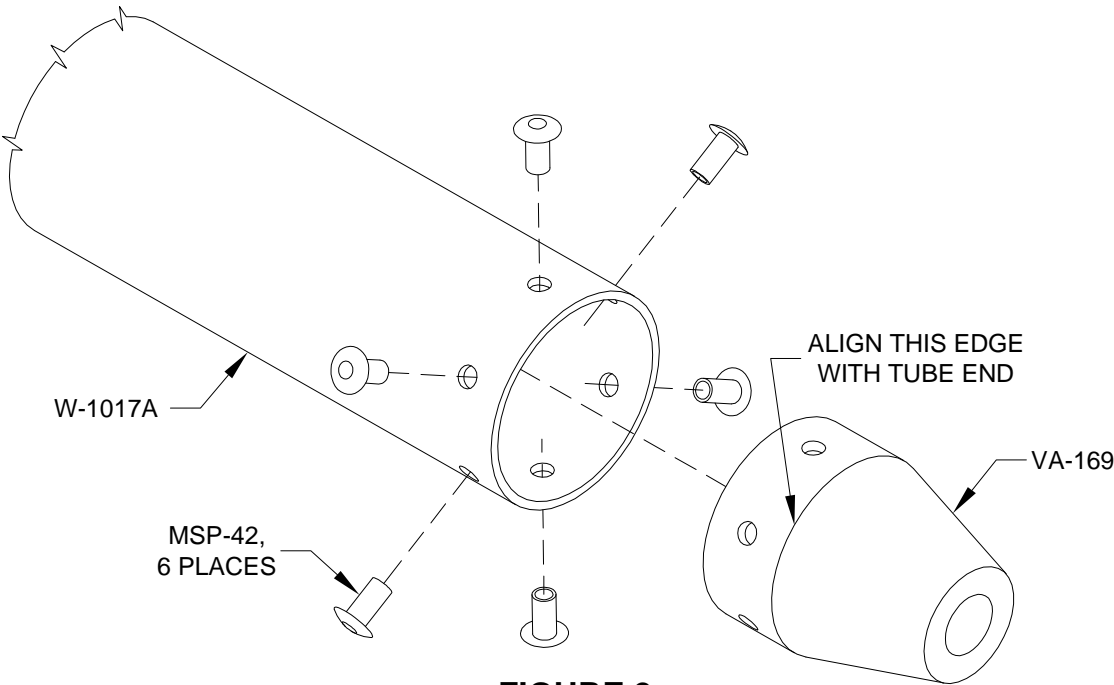

FIGURE 2:
Step 3: Insert a VA-169 Threaded Rod End into the end of one of the W-1017A Torque Tube to Bellcrank Pushrods. Proper engagement of the threaded rod end in the torque tube to bellcrank pushrod is when the end of the tube coincides with the edge of the taper in the threaded rod end. See Figure 2.
Permanently install the threaded rod ends to the torque tube to bellcrank pushrods using the rivets called-out in Figure 2.